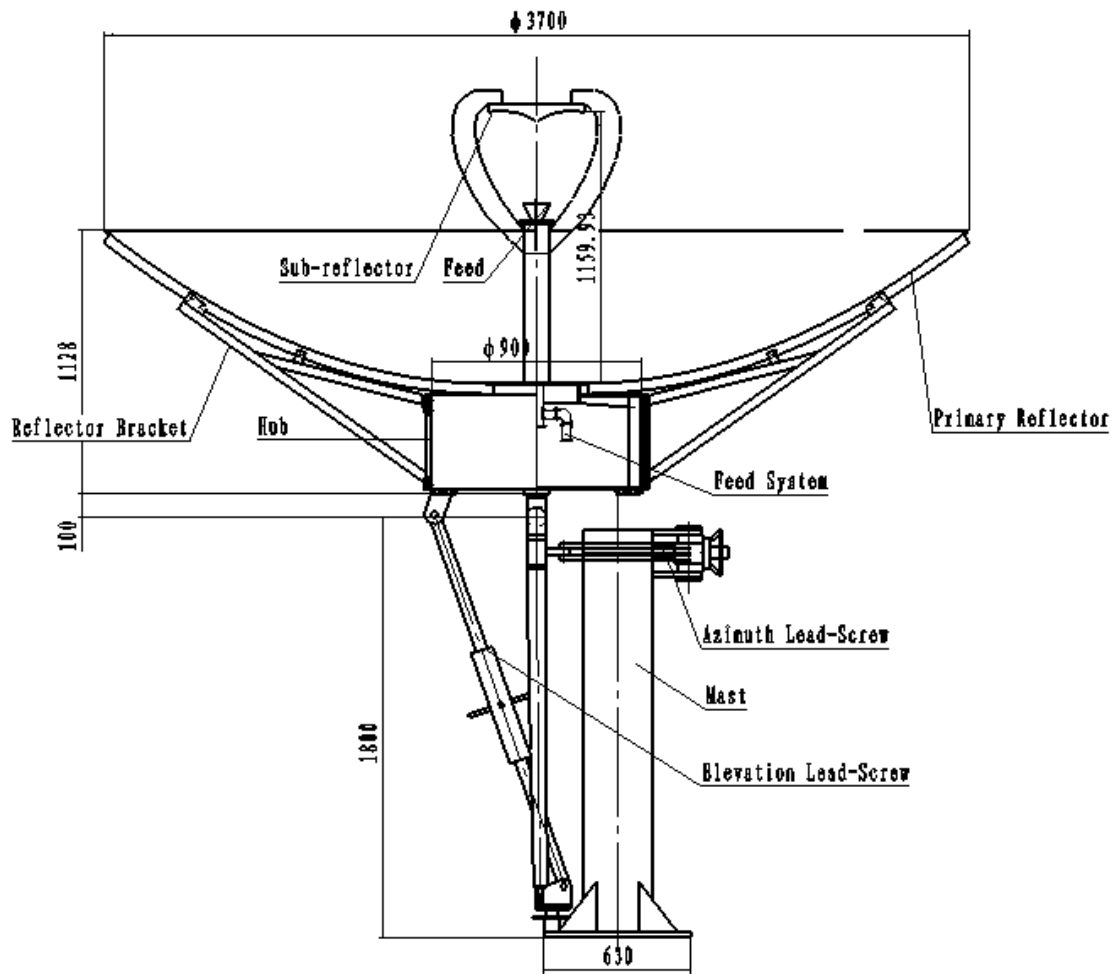

Figure 1. Schematic Figure of Composition of Antenna
2.1 Composition of Antenna, shown in Figure 1.